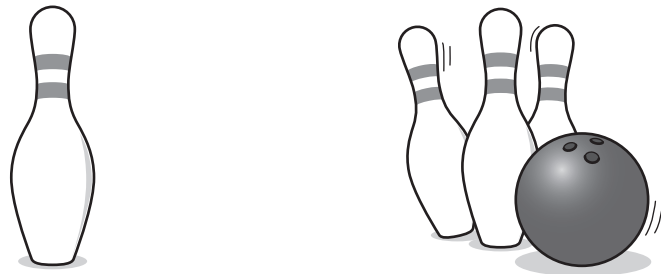

Fig. 5
- 14** Fig. 5 shows the design for a bowling pin and bowling pins being struck by a bowling ball.